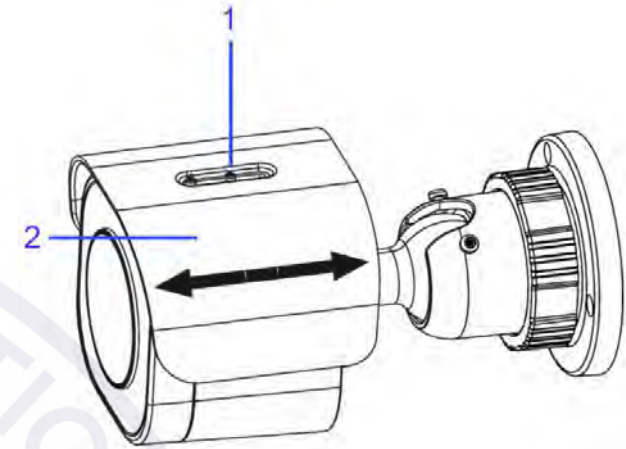

Figure 7
- A. Use the L-Key to loosen the two screws (1) (Figure 7) located on the protection shield hood.
- B. Slide the protection shield (2) (Figure 7) forward or backward until the correct position is found.
- C. Use the L-Key and secure the two screws (1) (Figure 7) located on the protection shield hood.